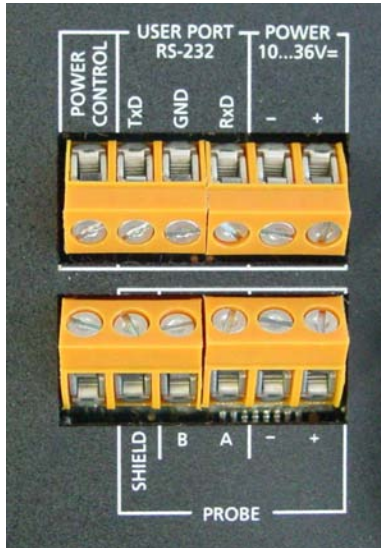

Figure 1 Signal and Power Supply Screw Terminals
3. Connect the RS-232 user port cables to terminals TxD, GND and RxD on the screw terminal block. See Figure 1 on the left.